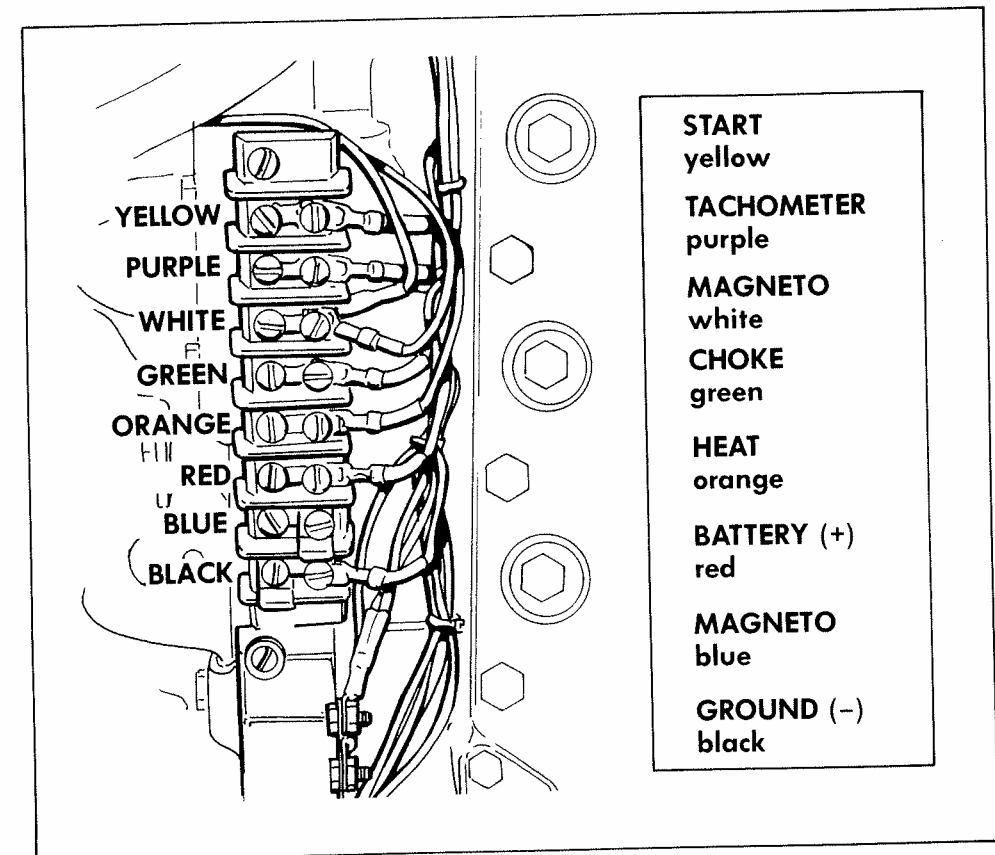

FIGURE 7
5. Connect electric cable lead wires to engine terminal block. Tighten screws securely. (See Figure 7.)